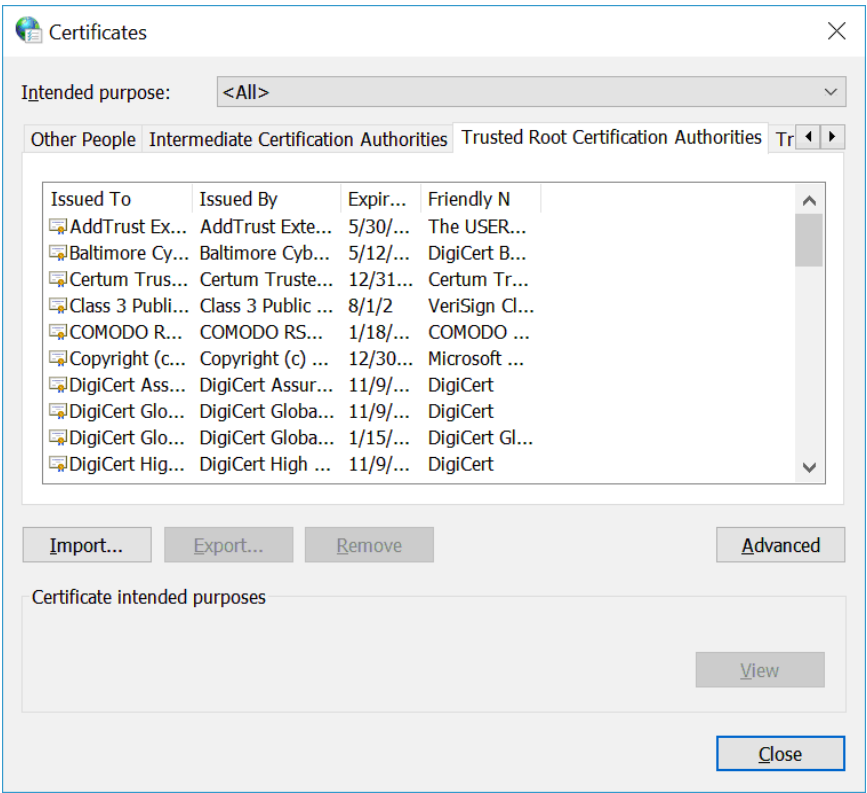

Figure 338: Certificates Screen
3. Click on the Certificates button. The Certificates screen displays. Click on the Trusted Root Certification Authorities tab, as shown in Figure 338.